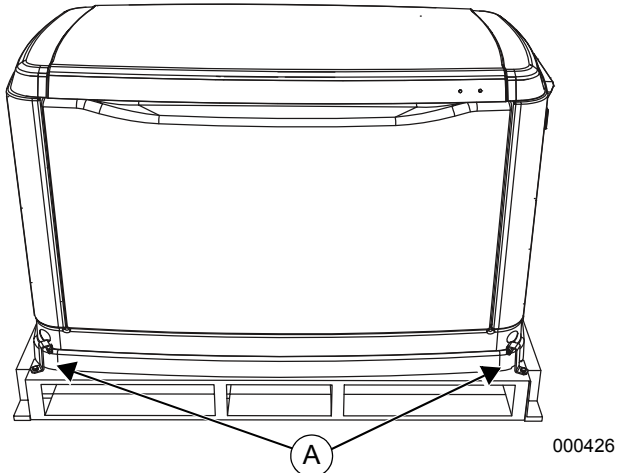

Figure 2-3. Generator on Pallet
6. See **Figure 2-3**. Remove bolts and pallet brackets (A). Exercise caution when removing the generator. Dragging it off the pallet will damage the base. The generator must be lifted from the wooden pallet to remove. Bolts and pallet brackets are provided only for shipping purposes and can be discarded after removal.